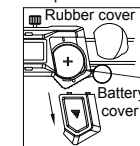

Fig.5
- Insert a pointed tool into the notch "a" of battery house to take out battery (fig.5)